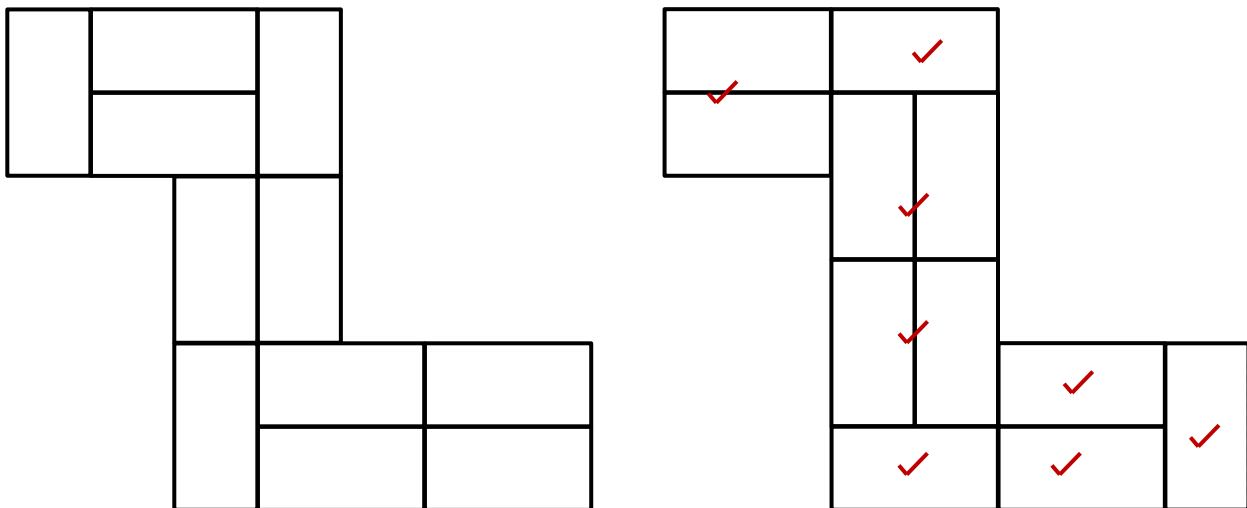

FIGURE 3.10
3.10 FIGURE 3.10 on ANSWER SHEET B shows layer 1 of a double return angle in a one-brick wall in stretcher bond. Draw the alternate layer of the one-brick wall on a scale of 1 : 10 on ANSWER SHEET B.